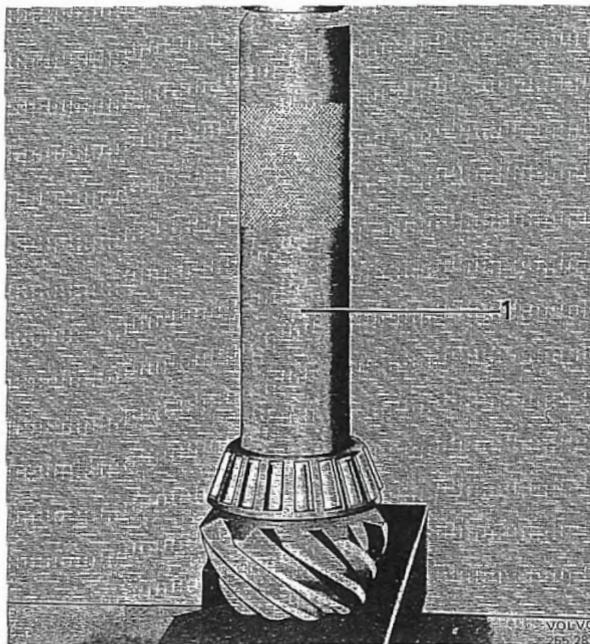
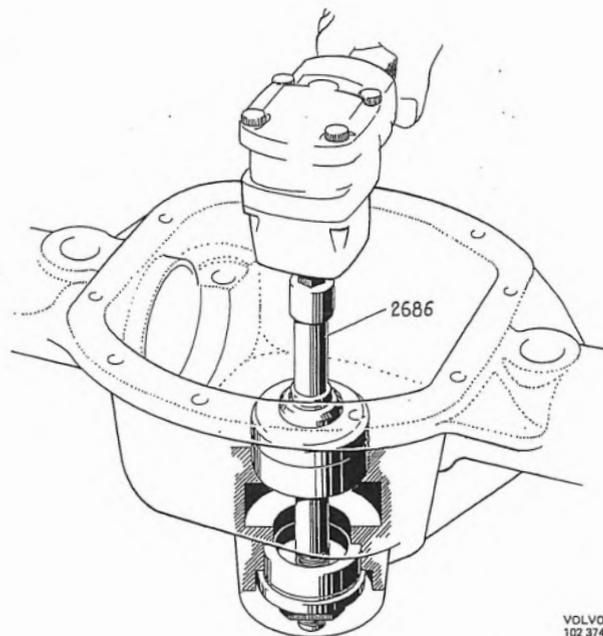

Fig. 4-153. Fitting rear pinion bearing
Fig. 4-154. Installing bearing races
4. Press the rear bearing on the pinion with sleeve 2395, see Fig. 4-153. NOTE. The washer under the rear bearing inner ring must **not** be fitted when reconditioning. Place on the measured shims and press in both the outer rings of the bearings with tool 2686, see Fig. 4-154.